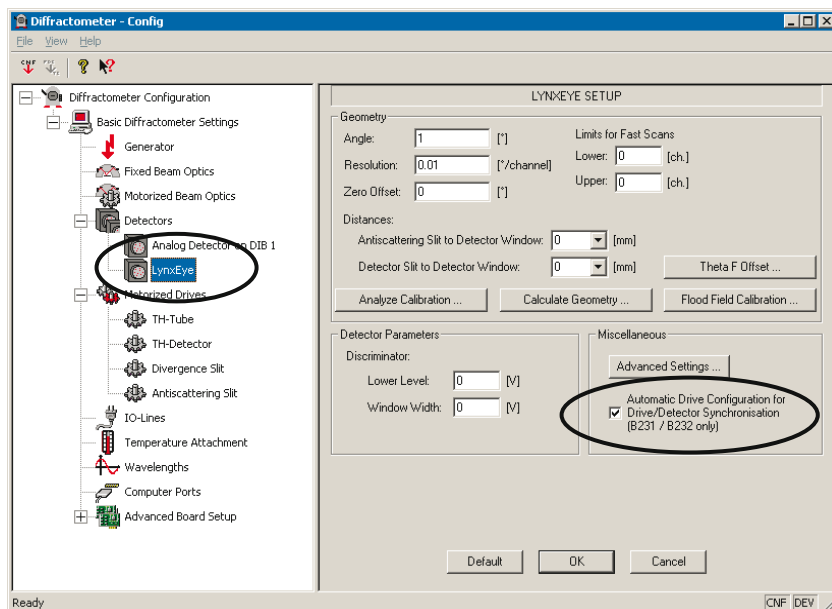

Figure 6.7 Activation of the Automatic Drive Configuration
1. Open the Configuration software and select the **LynxEye** window (Figure 6.7).
1. Make sure that the Automatic Drive Configuration is disabled by unchecking the checkbox in Figure 6.7.